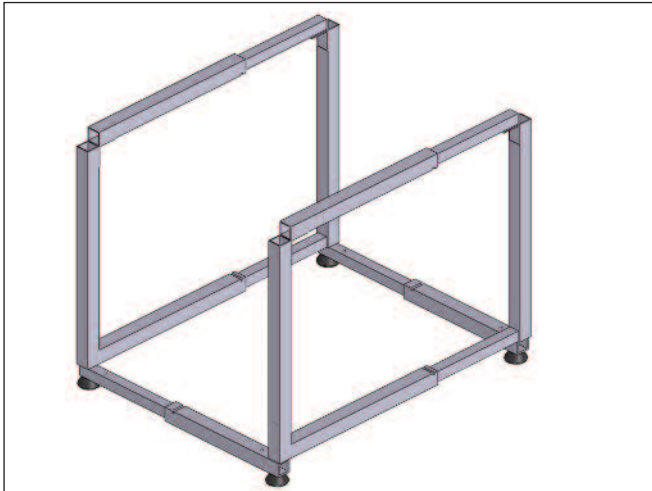

Fig. 5: Completion of Leg-Components to side Frames
4. The Leg Component A and Leg Component B will insert and assemble as shown in Figure 4. With the side frame components, the base frame assembly is completed as shown in Figure 5.